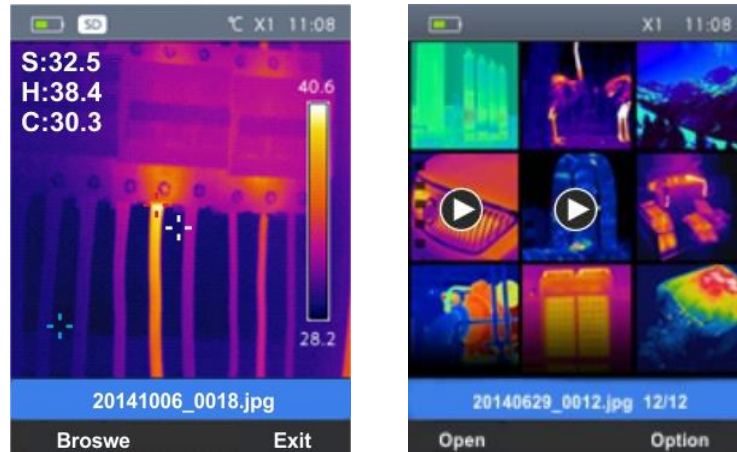

Fig. 31: Recalling an image or video on the display
1. Press the key . The instrument displays the last saved image/video (see Fig. 31 – Left side).
3. Press the key “Browse” to access the gallery of saved images/videos (see Fig. 31 – Left side).